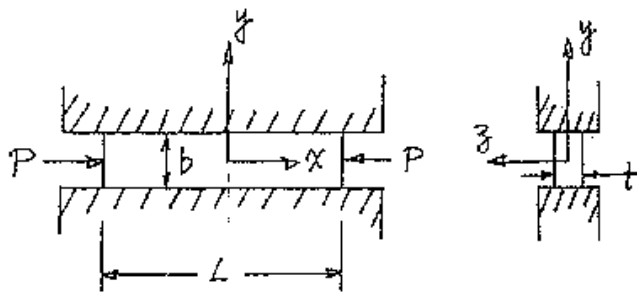

Fig. 1
1. A long, thin plate of width b , thickness t , and length L is placed between two rigid walls with a distance b apart and is acted on by an axial force P , as shown in Fig. 1.